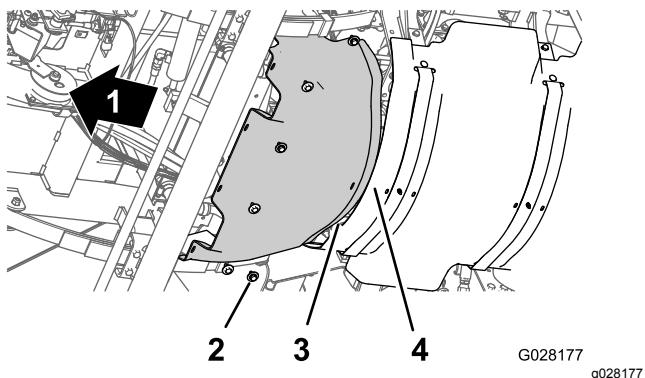

Figure 59
1. Align the rear flange of the forward heat shield over the forward flange of the rear heat shield (Figure 59).
2. Align the holes in the forward heat shield with the threaded holes in the chassis (Figure 59).
3. Assemble the forward heat shield to the machine with the 6 hex-head bolts and 6 washers (Figure 59) that you removed in step 3 of Removing the Forward Heat Shield \(page 50\).